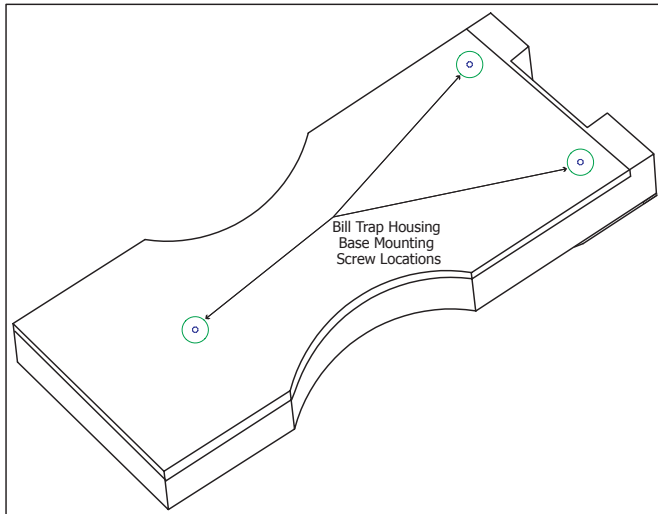
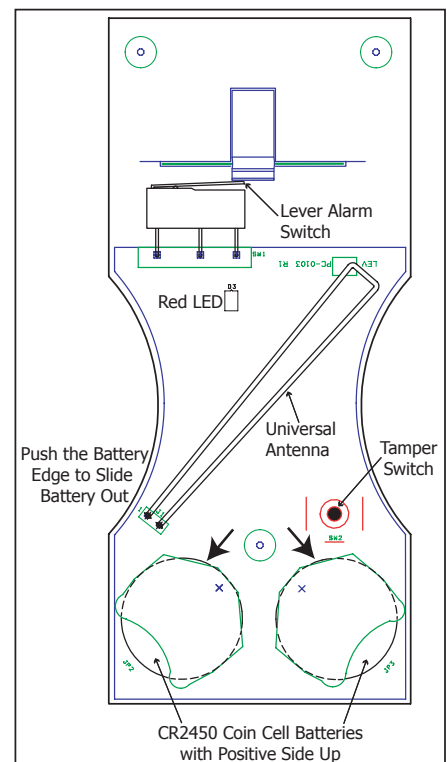

Figure 2: Bill Trap Base and Mounting Screw Locations
Figure 3: Bill Trap Battery Locations
Note: Refer to Figure 2 to remove the 1139 housing base and Figure 3 for the 1139 PCB LED and tamper switch locations.
1. Use a Phillips screwdriver to remove the three screws holding the base and housing together. See Figure 2.
3. If installed, push and slide each old battery out of the holder in the direction of the arrow to remove it. See Figure 3.